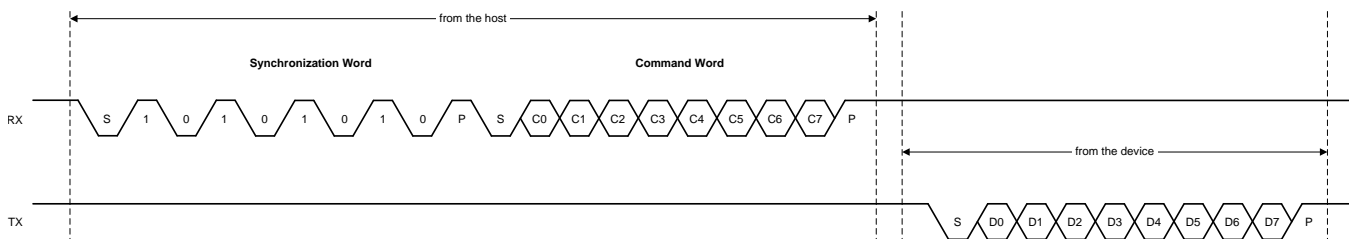

图 58. Example ADS112U04 UART Protocol
图 58 shows the timing sequence for the UART communication. In 图 58, as an example, there is only one byte for the command and one byte for the readback data. There may be multiple bytes for a command or the data that is read from the device. The protocol takes the 8-N-1 format: eight (8) data bits, no (N) parity bit, and one (1) stop bit.